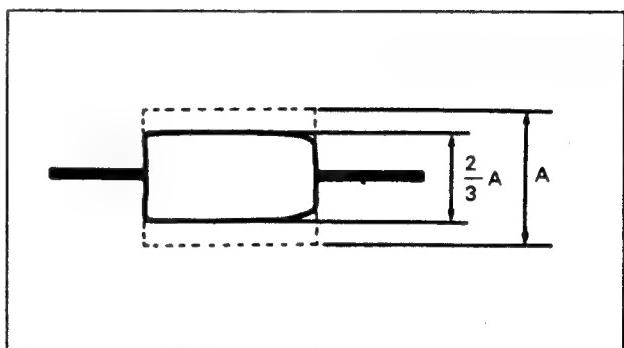

Fig. 2-44.
- 1) Run tracking alignment tape ; Switch the SHIFT TRACK ON, if OFF, the RF wave form becomes about 2/3 of its maximum amplitude (see Fig. 2-44).